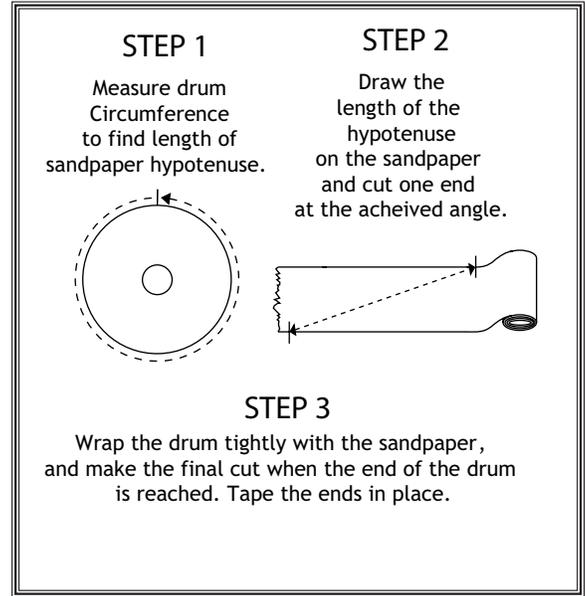

Figure 11. Procedure for finding the angle of cut for wider or narrower sandpaper for any size sanding drum.
The Model W1740 is designed for 3" wide x 72" long hook-and-loop sandpaper cut at a 15° (see **Figure 12**). To use other widths of sandpaper, use the formula in **Figure 11** to find the angle to cut the sandpaper.
4. Use the old sandpaper as a pattern to cut out the new sandpaper, or use the three steps in **Figure 11**, to cut a different width sandpaper.